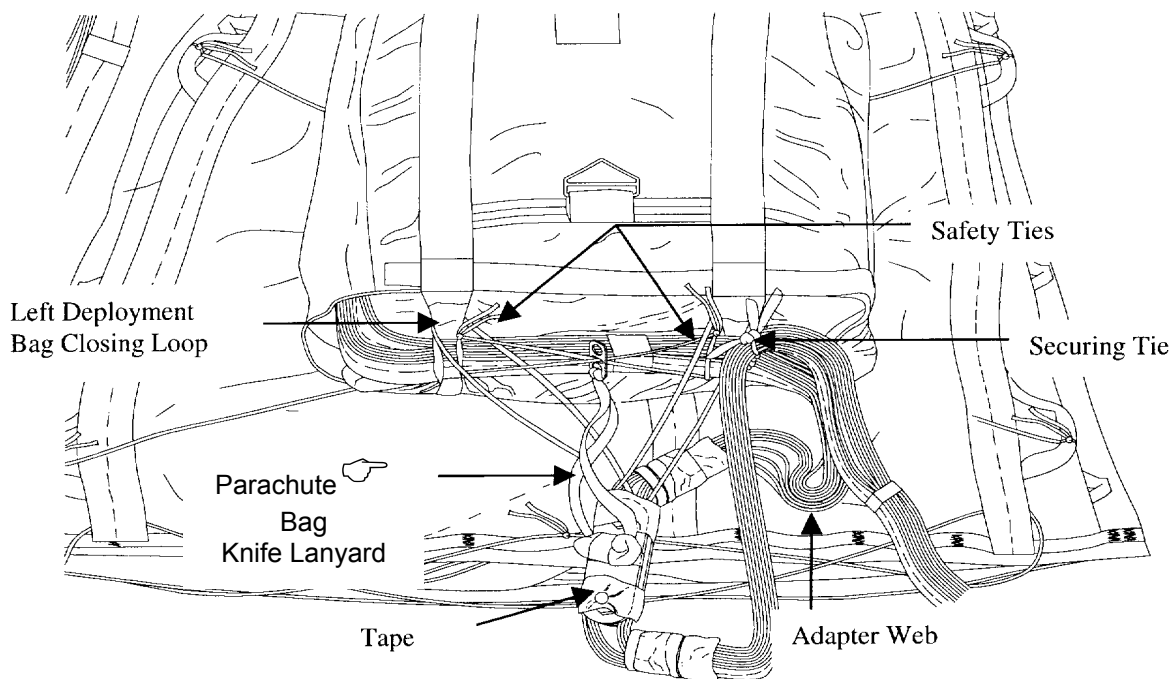

Figure 15. Safety Ties Installed.
- f. Safety tie the two-point link to the closing loops (centered between bag closing loops) with the two lengths of ½-inch tubular nylon. Pass one length around adapter web attaching bolt on the two-point link and through top left bag-closing loop. Pass the second length around the adapter web-attaching bolt on the two-point link and through top right bag closing loop. Secure with surgeons knot, locking knot, and an overhand knot in the running end (figure 15).
- g. Cut a 24-inch length of type I, ¼-inch cotton webbing, double and secure extraction line to top right deployment bag tie loop with a surgeon's knot locking knot (figure 15).